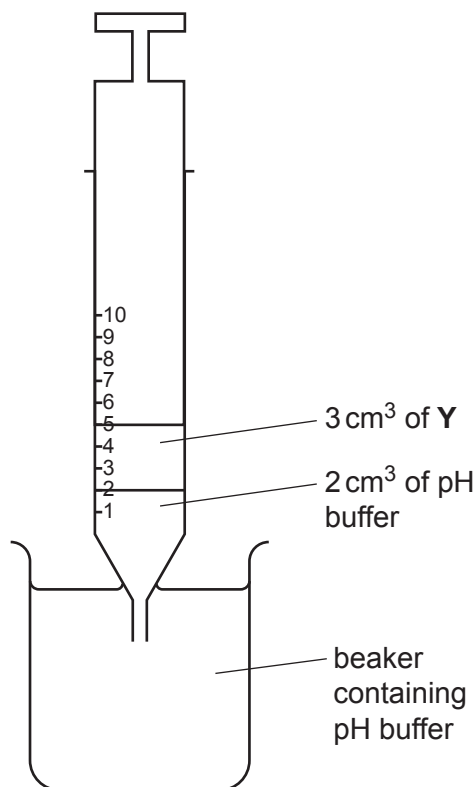

Fig. 1.3
9. Pull the plunger out to the 5 cm^3 mark so that approximately 2 cm^3 of the buffer enters the syringe, as shown in Fig. 1.3.